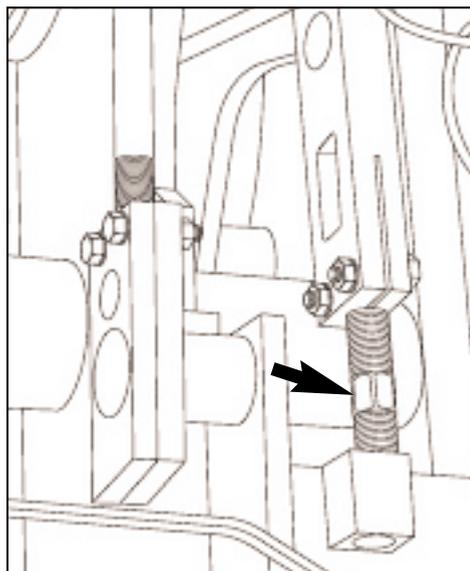

Figure 5.38 STRIPPER HEAD LINK (RIGHT SHOWN).
5.9.4 If adjustment is needed, adjust the right hand stripper head adjusting link (clockwise for more, counterclockwise for less); keep an accurate count of how many flats you turn the right hand link (see figure 5.38).